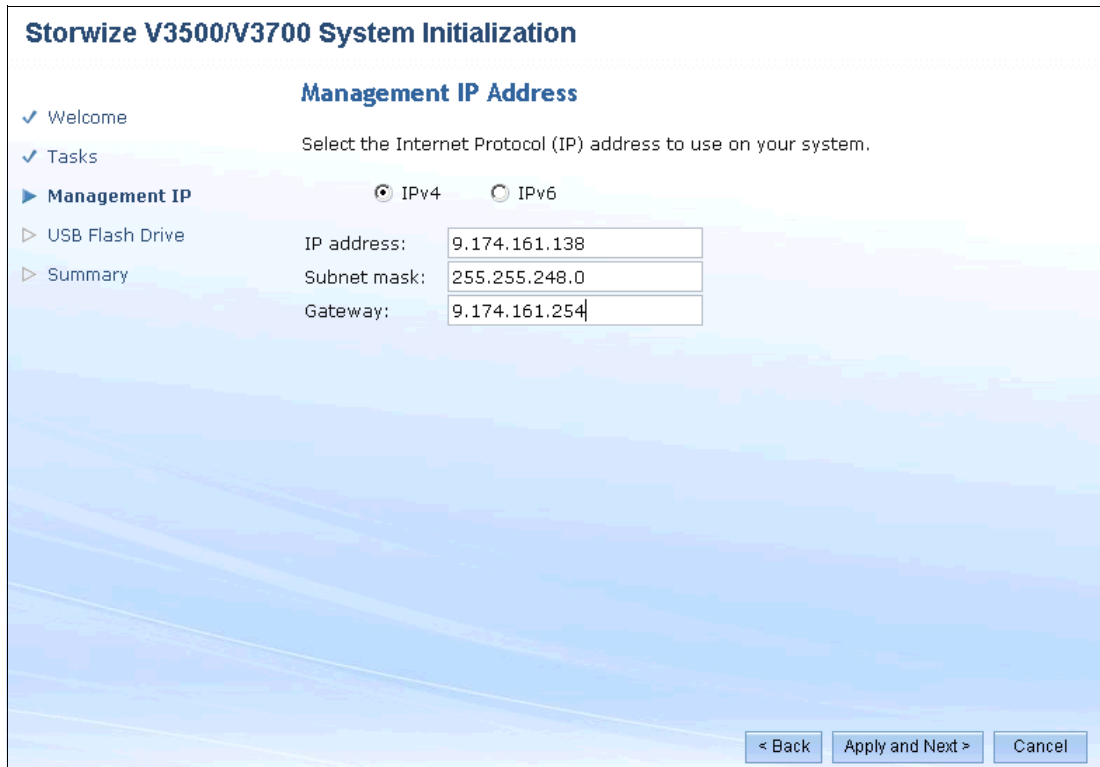

Figure 2-11 System Initialization: Management IP
3. Set the Management IP address, as shown in Figure 2-11.